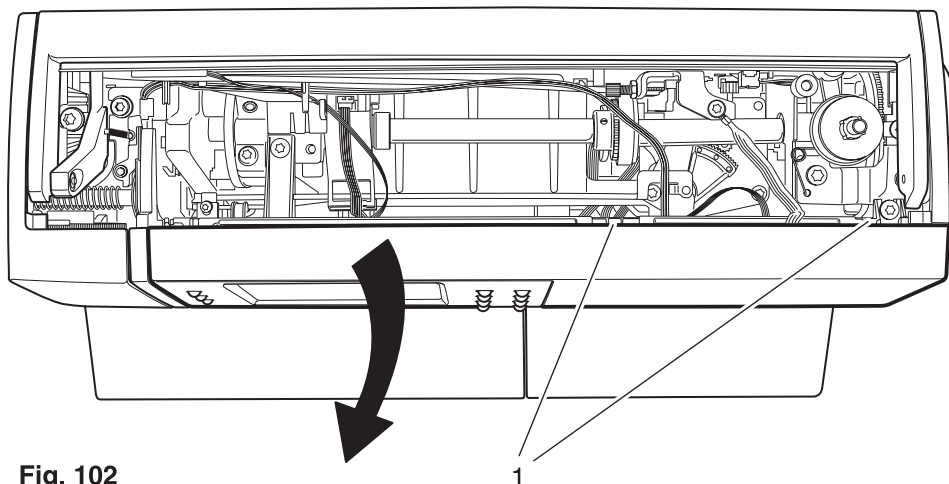

Fig. 102
- Raise both lugs 1 slightly and remove the facing panel of the front housing panel (fig. 102).